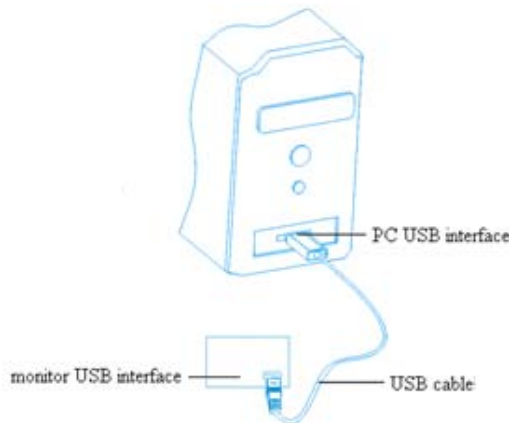

Figure 2-9
3. Connecting the Spot-Check monitor to PC with the data cable provided. ( As shown in the figure 2-9);
After “Spot-Check Monitor Data Manager” software is installed, refer to Figure 2-9 to perform cable connection: